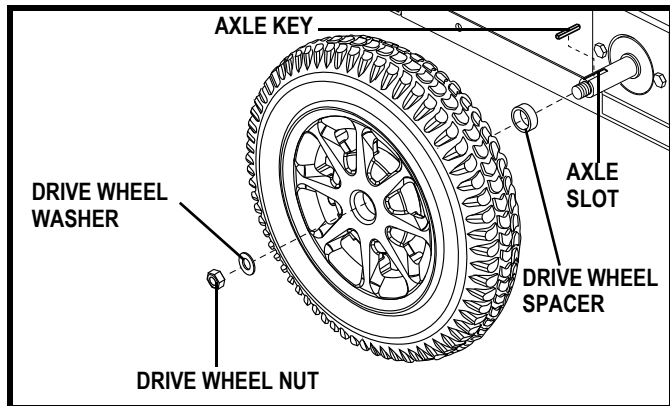

Figure 20. Quantum Jazzy 1650 Drive Wheel
4. Remove the drive wheel nut and washer from the axle. See figure 20.